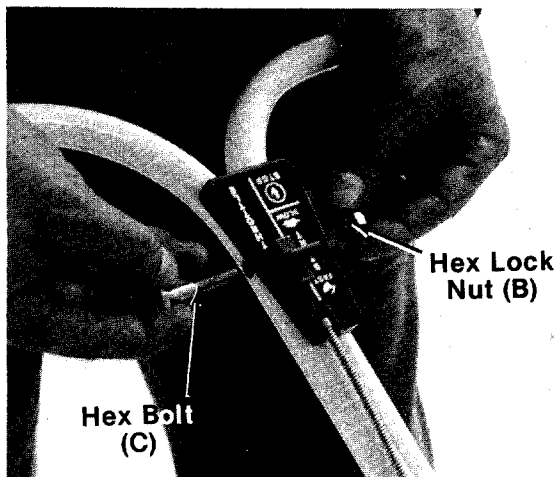

FIGURE 6. Model 020 Only
- 6B. **Model 020 Only**—Place the tab on throttle control between the upper handle halves at top hole. Secure with hex bolt (C) and hex lock nut (B) provided in hardware pack. See figure 6.